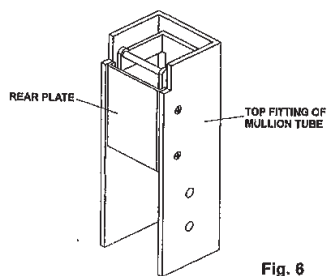

Fig. 6
1. Remove the Rear Plate by removing the 4 attachment screws (see Fig. 6). Now remove the Unlock Driving Plate by removing its 3 attachment screws. (See Fig. 7).